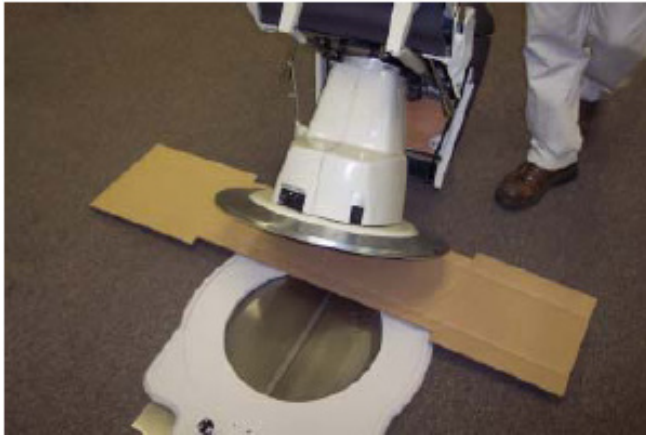

FIGURE 2
2.2.3. Position the chair on the carriage plate. To place the chair in the proper recessed area, flatten the long piece of cardboard used for shipping. Place mover in the location desired and lay the cardboard over the front half of the mover (See Figure 2).